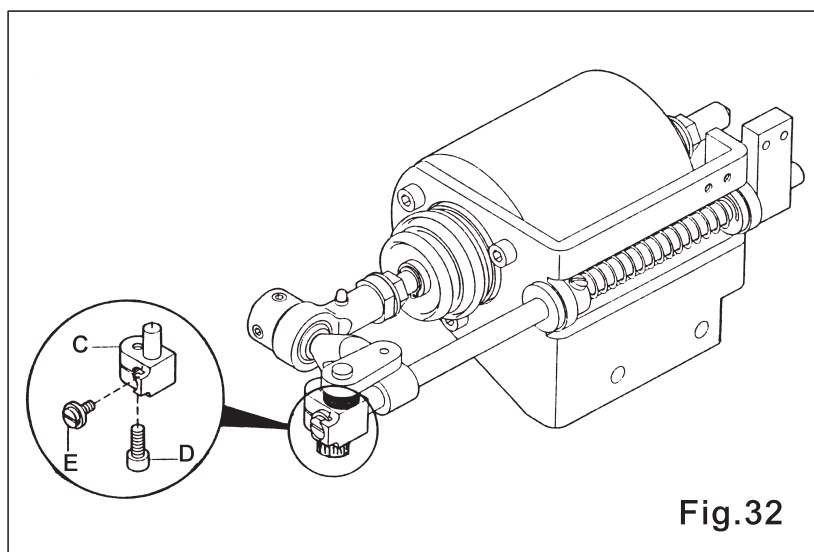

Fig.32
When you would like to adjust the right & left position of Moving Knife. First, please loose the screw (D) of Connecting Block (C), to turn the screw (E) by screwdriver for micro adjusting the correct right & left position of Moving Knife., then to locked the screw (D) down. (Fig.32)